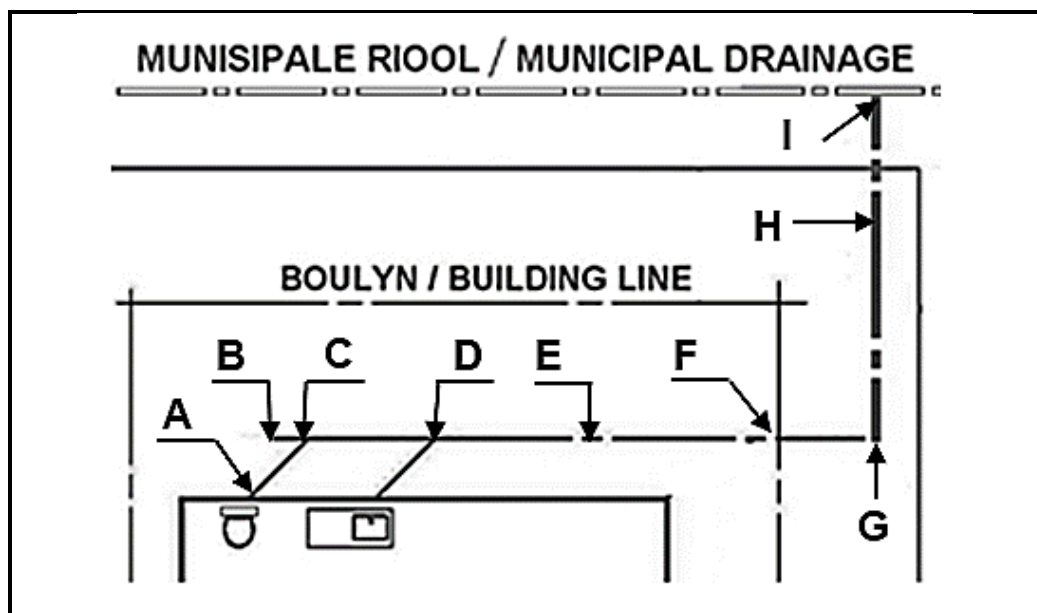

FIGURE 5.5
5.5 Answer the following questions regarding the drainage plan in FIGURE 5.5.